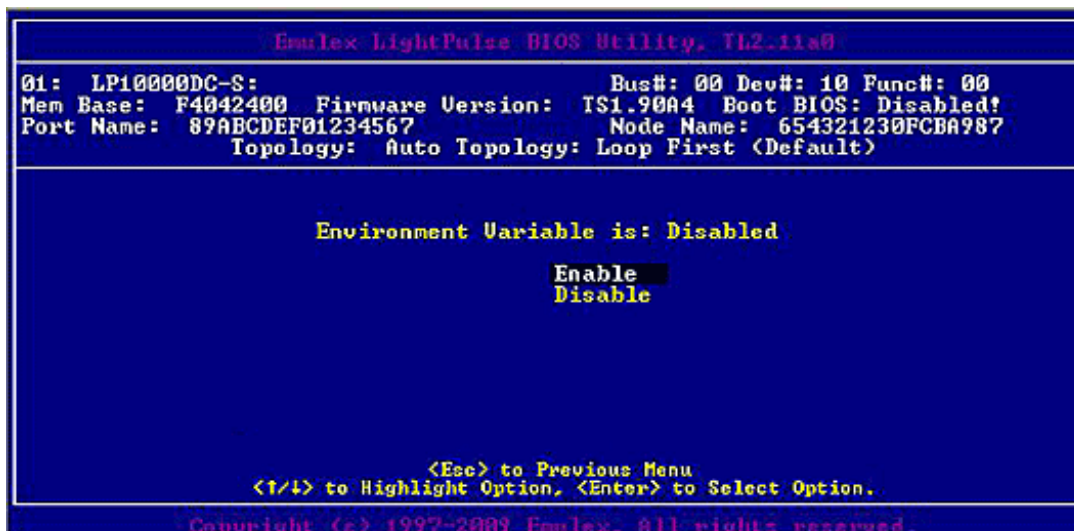

Figure 4-17 Enable or Disable Environment Variable Screen
2. Select **Enable or Disable Environment Variable**. Figure 4-17 is displayed.